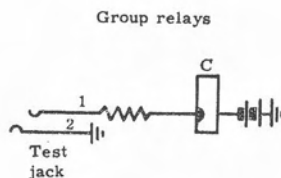

Figure 36. "Cascading" test.
**6.53 "Cascading" test (figure 36).** If group relay test-jack springs 1 and 2 are connected together, that group's relay C operates and starts a linefinder. Since none of the contacts in that finder's bank are marked, the finder will step to the fifth level, rotate to the eleventh step, advance the distributor, and release. The next linefinder will repeat this, and so on. This "cascading" permits a rapid check of the vertical and rotary operations of all finders as they operate in rapid succession.